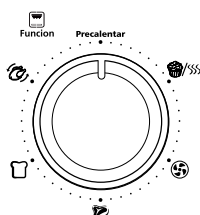

Figure 3
3. **Function Selector Knob** – Adjust the dial to select cooking function (See Figure 3).